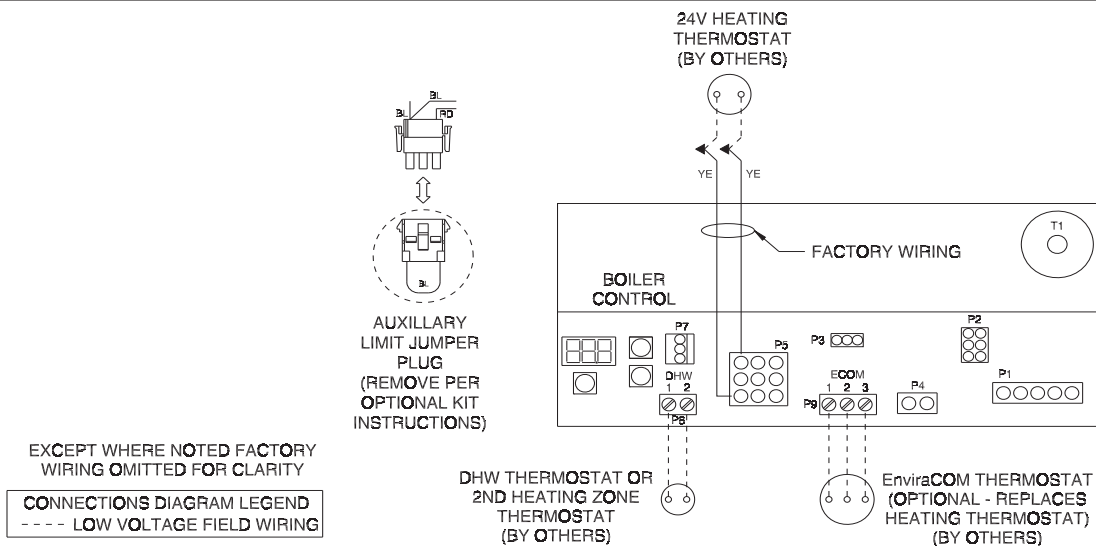

Figure 9.2: Low Voltage Connections
- Wire additional field supplied safety limits, such as low water cut-offs and temperature limit devices, so as to break the 120V power supply to the boiler. Alternatively, some 24V safety limits can be wired in place of the limit jumper shown in Figure 9.2. Do not alter the boiler's factory wiring when adding a field supplied limit device.
NOTICE: This boiler is equipped with a listed high water temperature limit function. This limit provides boiler shutdown in the event the boiler water temperature exceeds the set point of the limit control. Certain Local Codes require an additional water temperature limit. If necessary, install an additional water temperature limit (P/N 106056-01) or equivalent Honeywell L4006 Aquastat. Wire as indicated in Figure 9.2.
- a. Heating Circulator - Pumps water upon a call for heat (CH) from a heating thermostat connected to the leads shown in Figure 9.2 or from an EnviraCom thermostat.
- b. DHW Circulator - Pumps boiler water to an indirect water heater upon a call for domestic hot water (DHW) from the DHW thermostat terminals shown in Figure 9.2. This output can also be used for a second space heating zone (See Section 11 for additional information).
2. Low Voltage Connections – Low voltage field connections are located as shown in Figure 9.2 and are as follows:
- a. Heating (CH) Thermostat - Connect to a 24 volt thermostat or other “dry contacts” (such as a zone panel end switch) that close upon a call for heat. Follow thermostat manufacturer's instructions. To insure proper thermostat operation, avoid installation in areas of poor air circulation, hot spots (near any heat source or in direct sunlight), cold spots (outside walls, walls adjacent to unheated areas, locations subject to drafts). Provide Class II circuit between thermostat (or zone controls) and boiler.
- c. **Auxiliary Limit Jumper** - Used to connect auxiliary limit device. If no such devices are installed, the factory supplied jumper shown in Figures 9.2 and 9.3 must be installed for boiler to operate.